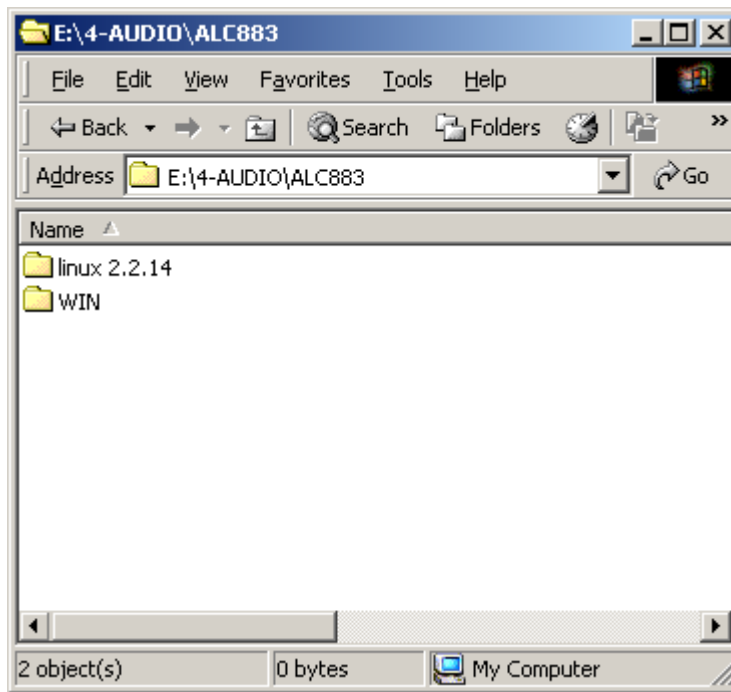

Figure 7-24: Select the OS
Step 4: Double-click the appropriate operating system folder (**Figure 7-24**).